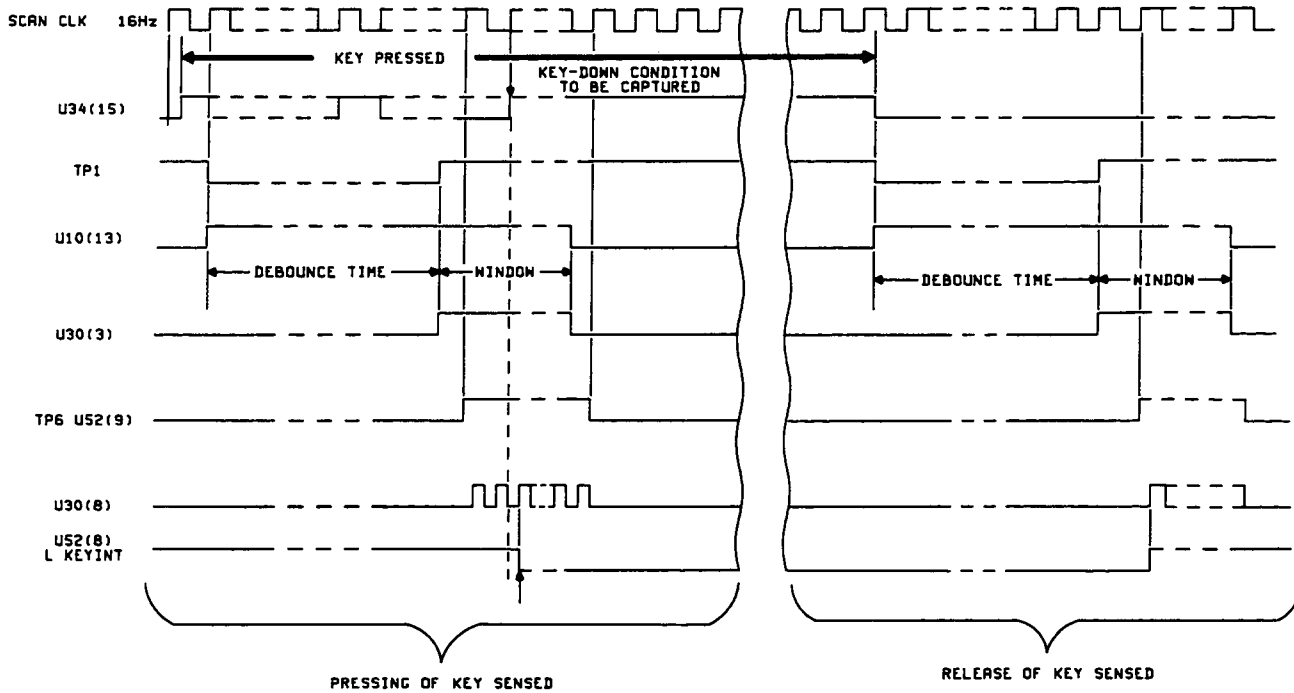

Figure A22-6 Debouncer Timing Diagram
A22-35 Y Decoder U34 is an octal to binary highest priority decoder. When a key is pressed, the Y line of the key is strobed by the X line once every 16 SCAN CLK pulses. This produces a train of pulses at U34(15) which activate the Debouncer circuit. The next pulse after the 5ms delay produces L KEY INT at the output of the Scan Inhibit Logic which stops the scan (see Figure A22-6). The binary output data from the Y Decoder is used by the processor to identify the key.
A22-38 Two monostables U10 and U11, two AND gates and a flip-flop make up the Debouncer circuit. This circuit ensures that only a single pressing of a key is sensed, by utilising the 5 and 7ms time constants of U10 and U11. The circuit is described using timing diagram Figure A22-6.